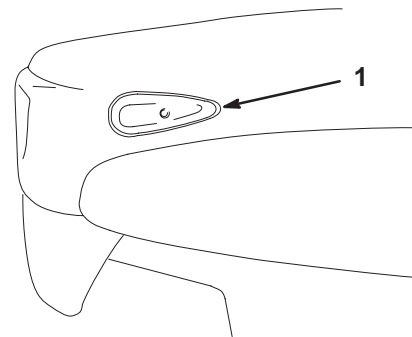

Figure 5
- Using the rubber seal on the signal lights as a template, locate, mark and drill 2 holes (9/32 in. dia.) for the screws and a hole (3/4 in. dia.) for the wires in each side of the hood in the approximate locations shown in Figures 5 and 6.